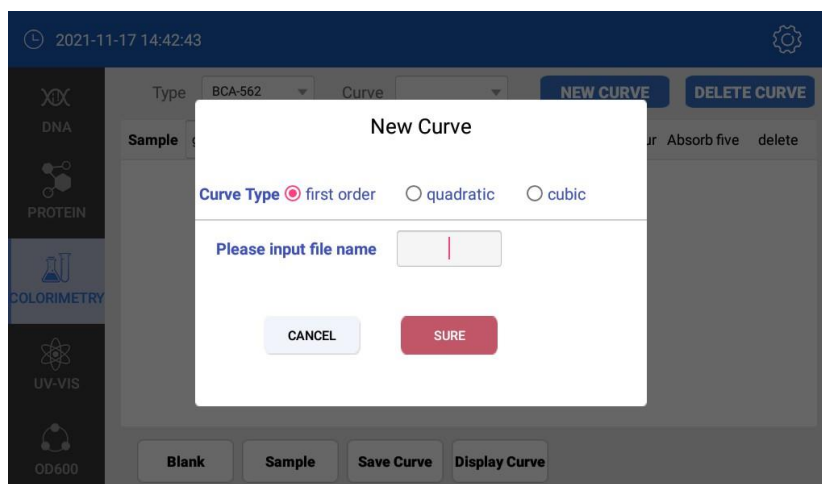

Fig. 5.3 New Curve of Colorimetry
- ② Click  , Choose unit for standard sample, input standard sample concentration
- ③ Click the standard sample name (as Fig 5.3) to choose one standard sample, which will be back-ground-colored blue. According to blank, sample detection order to get the sample Abs. Same method for other samples.